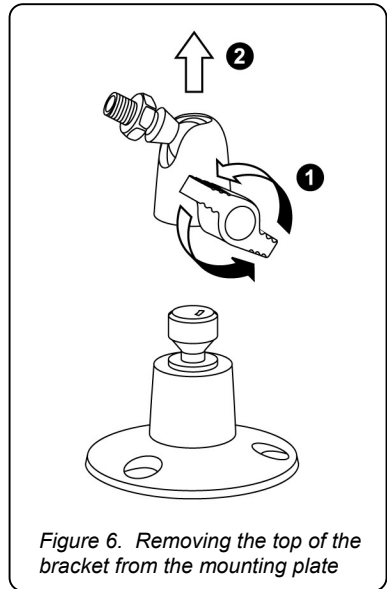

Figure 6. Removing the top of the bracket from the mounting plate
- 1) Loosen the wing nut and remove the top of the bracket as shown in Figure 6.